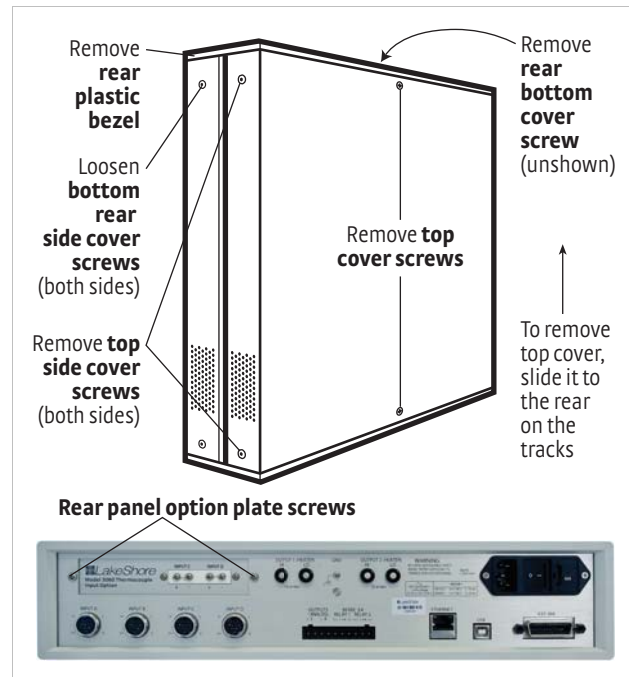

FIGURE 7-3 Cover and option plate screws
2. Stand the unit on its face. Use the hex driver to remove the 4 screws on both sides of the top cover. Loosen the 2 rear bottom screws (FIGURE 7-3).
3. Use a small Phillips screwdriver to remove the 2 top cover screws and 1 rear bottom screw (FIGURE 7-3).